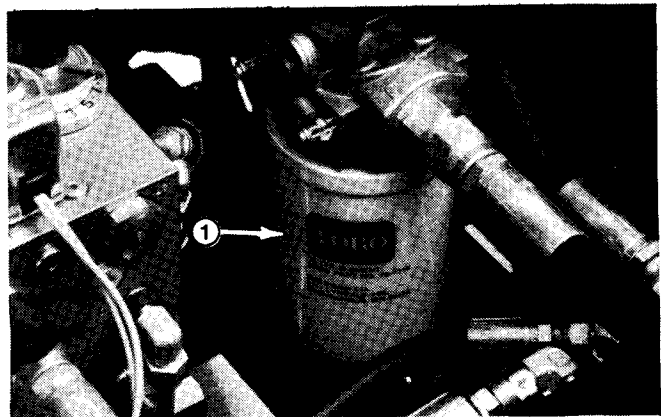

Figure 100
4. Clean area around filter mounting area. Remove and discard filter (Fig. 100). Make sure filter mounting surface is clean. Apply hydraulic oil to gasket on new filter. Fill filter with hydraulic oil. Screw filter on until gasket contacts mounting plate, then tighten filter one-half turn.
7. Turn ignition key switch to engage starter for ten (10) seconds to prime pump. Repeat this procedure again.
9. Start engine and let idle at low speed for minimum of two (2) minutes.
10. Increase engine speed to high idle for minimum of one (1) minute under no load.
13. Engage cutting units and run under no load for five (5) minutes.